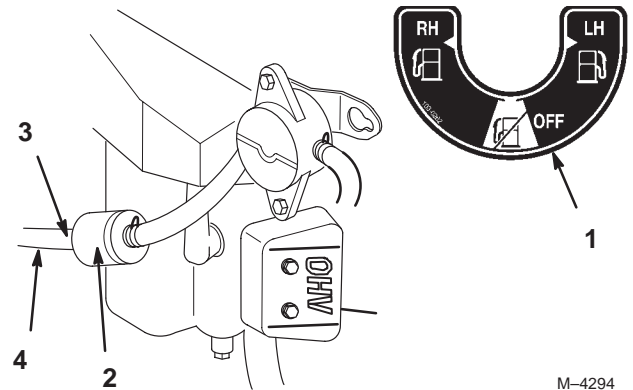

Figure 40
5. Install a new filter and move the hose clamps close to the filter (Fig. 40).
2. Close the fuel shut-off valve (Fig. 40).
3. Loosen the hose clamp at the fuel filter and slide it up the fuel line away from the fuel filter (Fig. 40).
4. Pull the fuel line off of the fuel filter (Fig. 40).
5. Open the fuel shut-off valve for the left and right tanks. Allow gasoline to drain into a gas can or drain pan (Fig. 40).
6. Install the fuel line onto the fuel filter. Slide the hose clamp close to the fuel filter to secure the fuel line (Fig. 40).